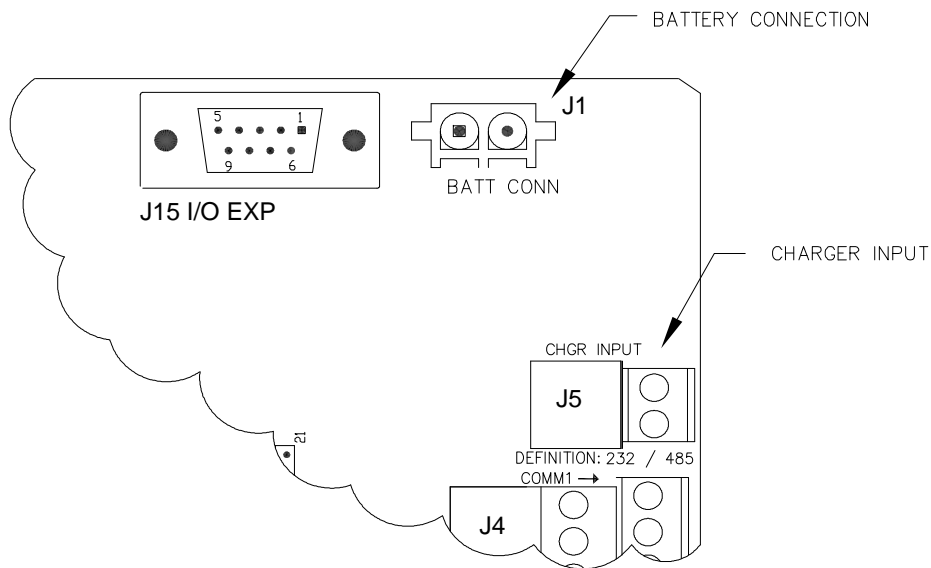

Figure 53 XFCG4 Board Battery and Charger Input Connections
3. Connect the battery pack connector to the digital board battery connection J1 connector (see Figure 53).
**NOTICE- Equipment damage:** Do not connect the solar panel power cable to the flow computer unless the main battery pack has been connected to J1 (see Figure 53).